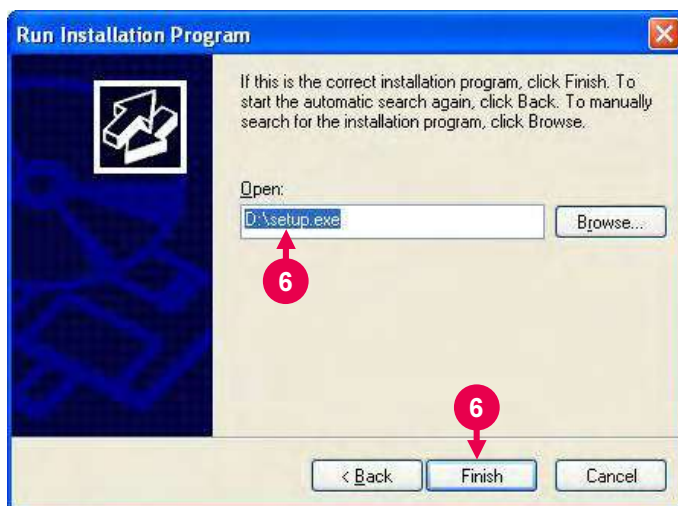

Fig. 1-6
- A window as shown in Fig. 1-6 will appear.